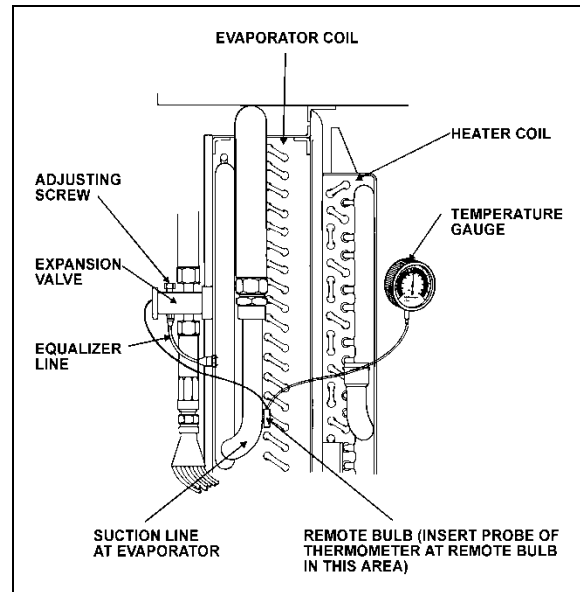

FIGURE 46: SUPERHEAT ADJUSTMENT INSTALLATION
3. Install a remote reading thermometer to the evaporator outlet line near the existing remote bulb (Figure 46).